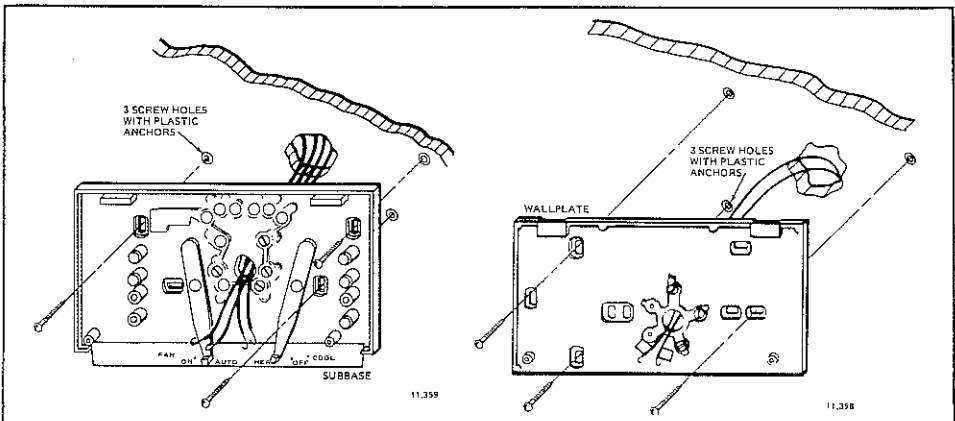

Fig. 2—Mounting wallplate or subbase to wall.
- Hold wallplate or subbase in position on wall as shown in Fig. 2.